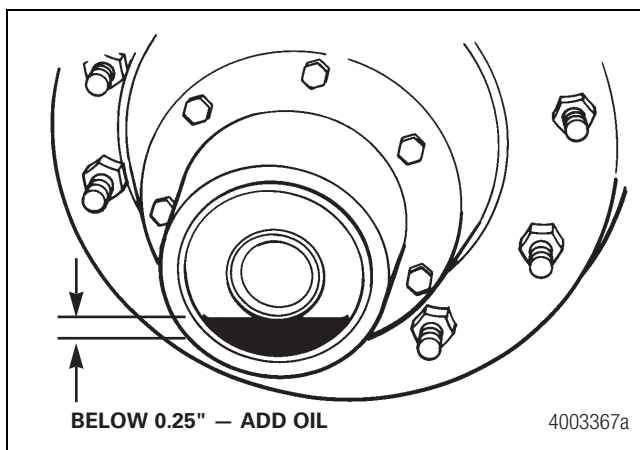

Figure 5.14
9. Fill the wheel end with oil to the hubcap fill line. Note that the oil must be given sufficient time to settle prior to the final check of the oil level. This is especially important in cold conditions. Install the hubcap plug, verifying that the vent hole, if present, is not clogged with debris. Figure 5.14.